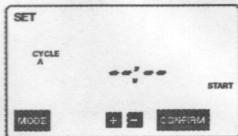

Figure 9
- There are three unique watering start times, or cycles, that can be set: CYCLE A, CYCLE B and CYCLE C. Each cycle will appear on the screen to specify which one is to be set. One, two or three cycles may be selected. (See Figure 9)